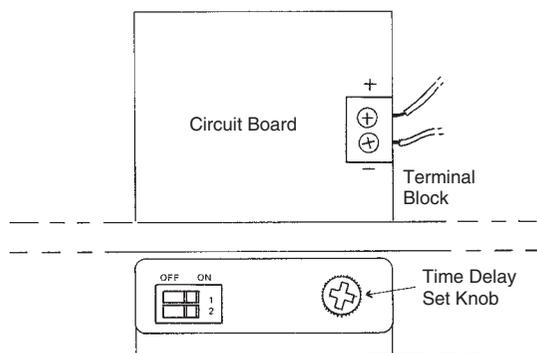

Figure 1
The solenoids are controlled by a time delay circuit and electronic sequencer with a time setting control and two switches. When the control knob is fully counter clockwise the time delay setting is near zero. When the knob is fully clockwise the time delay is 35 to 40 seconds. See Figure 1.
A pair of wires (16-22 ga.) must be routed to the ceiling opening and connected to the terminal block on the circuit board before fastening the Repulsar to the ceiling. Observe proper polarity as shown in Figure 1. The other end of the pair should be connected to the 12 volt output terminals of the alarm system (normally used for a bell or siren) or to a separate power supply triggered by an alarm contact closure.
With the Repulsar IV properly wired to your alarm components you are ready for testing. First set the time setting control knob to a mid point setting and move switch (1) to ON and switch (2) to OFF. Refer to Figure 1. Turn on the alarm system. The Repulsar should remain silent. Trigger the alarm system by operating one of the sensor switches. The Repulsar warning horn should sound for approximately 20 seconds and then stop. At the moment the warning horn stops you should be able to hear a click coming from one of the solenoids. Adjust the time setting control knob and repeat the test until the desired time delay is achieved.